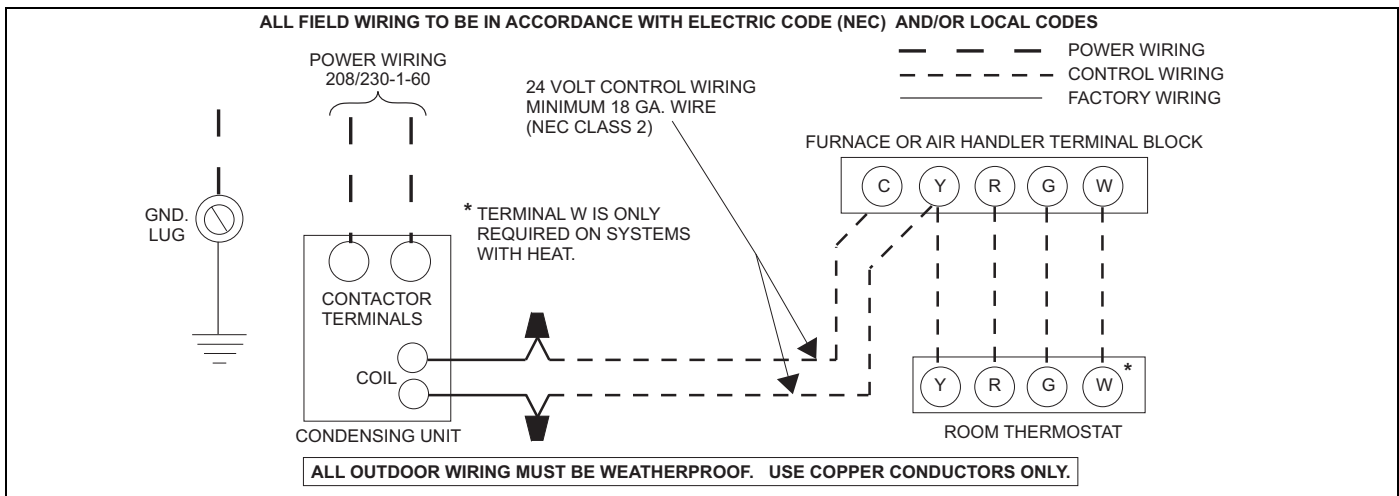

FIGURE 6: Typical Field Wiring (Air Handler / Electrical Heat) (Single-Phase)
4. Route wires from disconnect through power wiring opening provided and into the top of the field wiring box as shown in Figure 6.
1. Route low voltage wiring into bottom of field wiring box as shown in Figure 6. Make low voltage wiring connections inside the low voltage box per Figures 8 - 11.